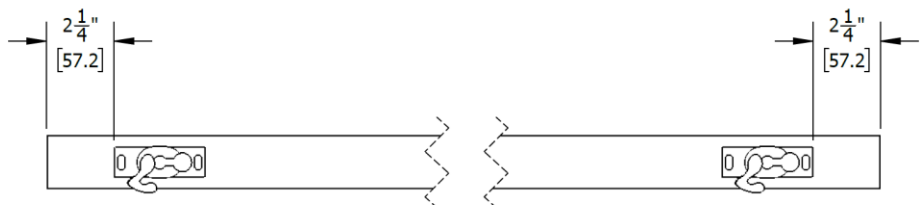

Figure 10
- Position both hanger plates center of the top door edge thickness. One 2-1/4" from the left door edge and the other 2-1/4" from the right door edge. Make sure the slots on both hanger plates are facing the pocket side door edge. See Figure 10